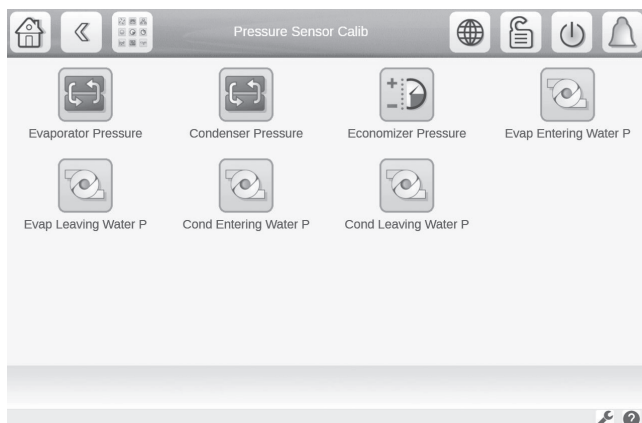

Fig. 60 — Pressure Sensor Calib Screen, Page 1
1. Go to **Main Menu** → **Maintenance Menu** → **Pressure Sensor Calib**. See Fig. 60 and 61.
1. Go to **Main Menu** → **Maintenance Menu** → **Temp Sensor Calib**. See Fig. 60.